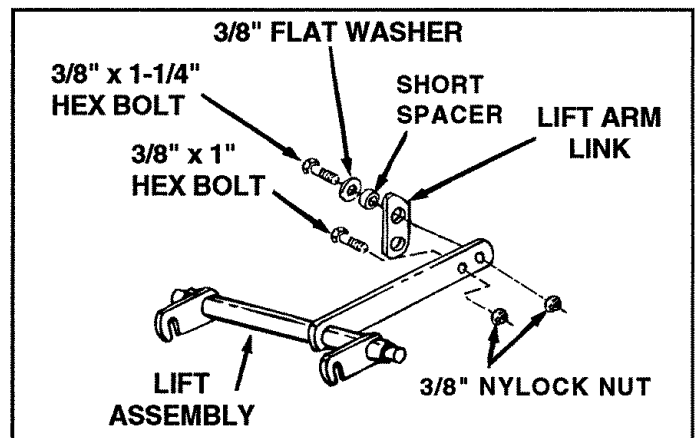

FIGURE 17
- Pre-assemble lift arm link to inside of long arm on lift assembly. As shown in figure 17.
- Assemble one 3/8" x 1-1/4" hex bolt through 3/8" flat washer, through short spacer, through large hole in lift arm link near angle end and through hole in long arm nearest the end. Secure with one 3/8" nylock nut. See figure 17.
- Assemble one 3/8" x 1" hex bolt through second hole from end of long arm. Secure with one 3/8" nylock nut. This bolt is used as a limit stop for the lift arm link. See figure 17.
Lift arm link must be positioned as shown in figures 17 and 19.